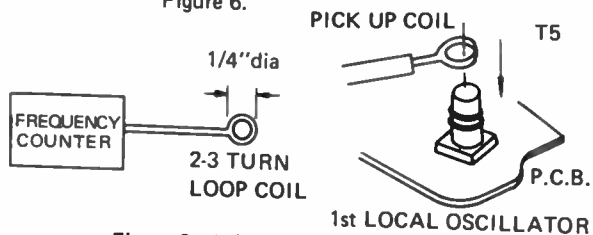

Figure 6. 1ST LOCAL OSCILLATOR
Step 2: Couple the frequency counter thru a pick-up coil to oscillator coil T5. Refer to Figure 6.